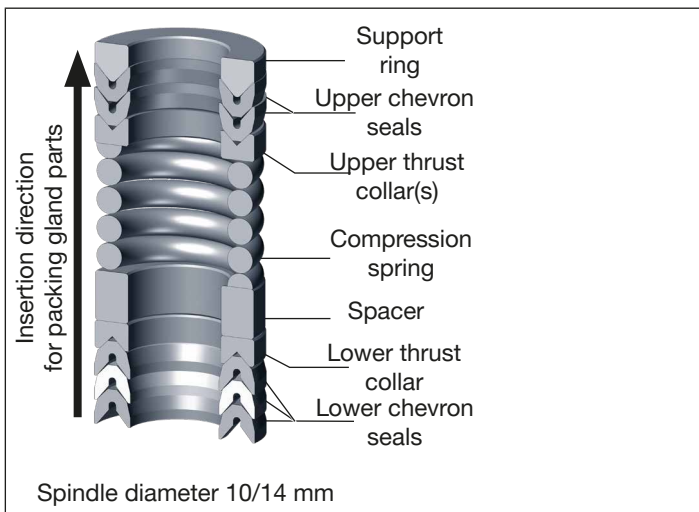
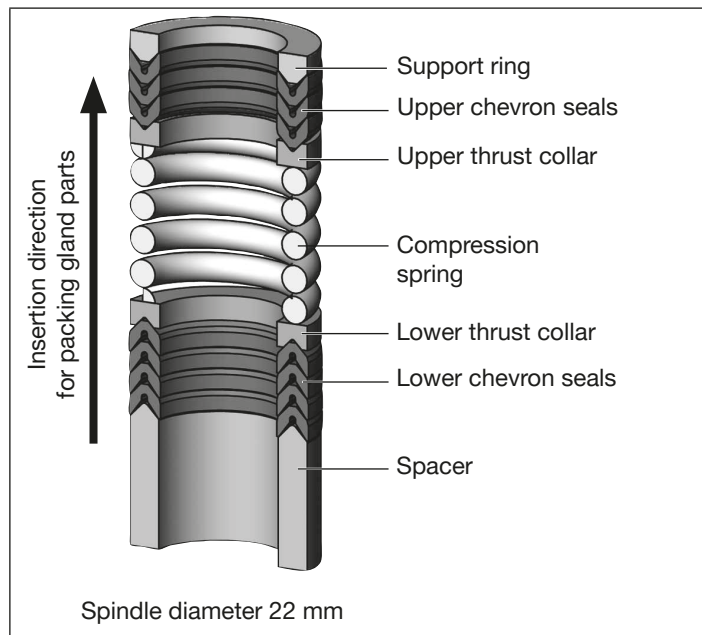

Fig. 33: Seal set for packing gland
Fig. 34: Seal set for packing gland SP22
- Place individual parts on the spindle in the specified direction and sequence (see “Fig. 33” or “Fig. 34”).